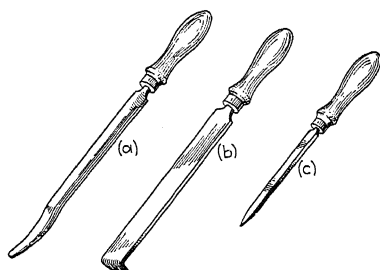
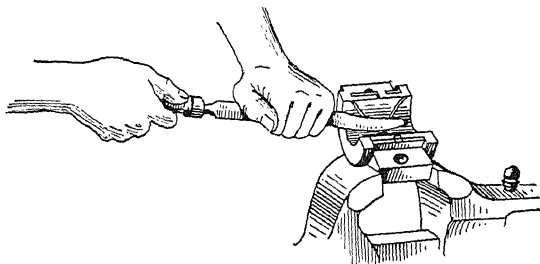

FIG. 239.
FIG. 240.
**274. Scraping Curved Surfaces.**—Round bearings and other curved surfaces have often to be scraped to fit running or sliding parts. The scrapers used are shown in Fig. 239. The half-round bent scraper *a* is mostly used. It has two cutting edges and the cutting stroke may be either toward or away from the user as desired. The proper way to hold this scraper is shown in Fig. 240. For the larger curves the scraper shown at *b*, Fig. 239, is preferred by many; it is ground to conform to the curve of the work and sharpened to cut on the pull stroke. Scraping a curved surface to fit a shaft or a gauge is not particularly different in principle or operation from scraping a plane surface.
The three-cornered scraper (*c*, Fig. 239) is used to “break” (remove the sharp edge), or round as desired, the corners of